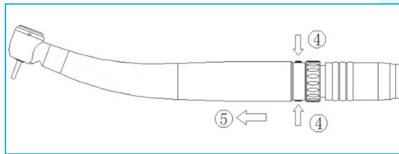

Fig. 6-12
- Hold the LED coupling tightly, slide the lock ring (Fig.6-12④).
- Pull the medical device off (Fig. 6-12⑤).